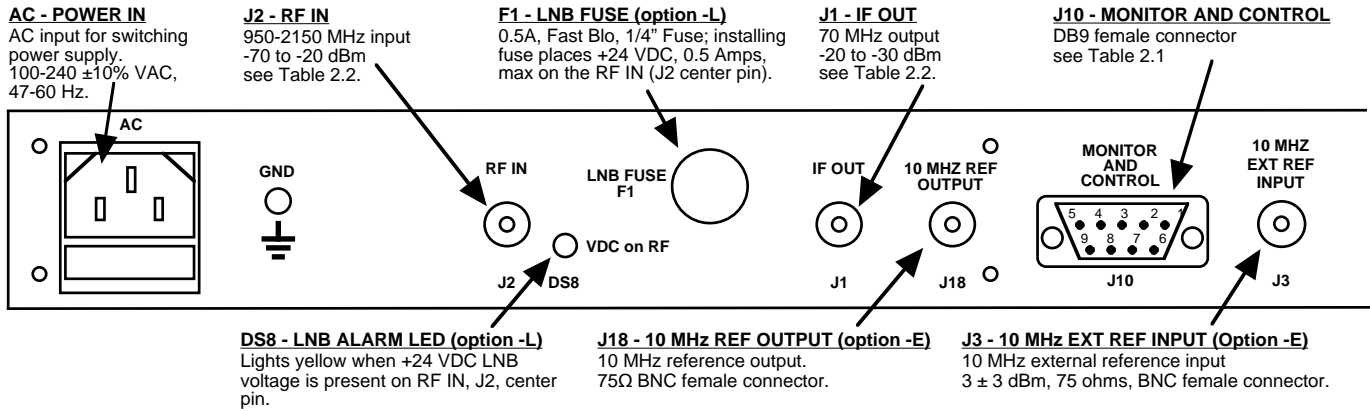

FIGURE 2.2 2016-12 Rear Panel Inputs and Outputs
2.2 Rear Panel Input / Output Signals - Figure 2.2 shows the input and output connectors on the rear panel.
- 1.) Connect a -70 dBm to -20 dBm, 950-2150 MHz signal to RF IN, J4 (Figure 2.2)
Alarm indications appear on the LEDs (see figure 2.2).